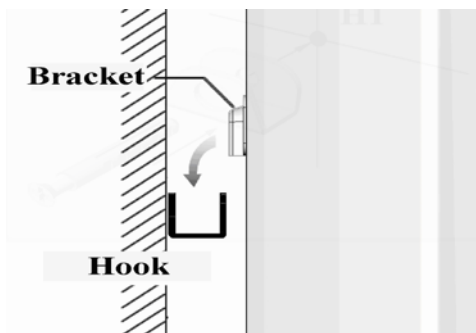

Figure 5
- Hang the unit on the hooks ( shown in figure 5).